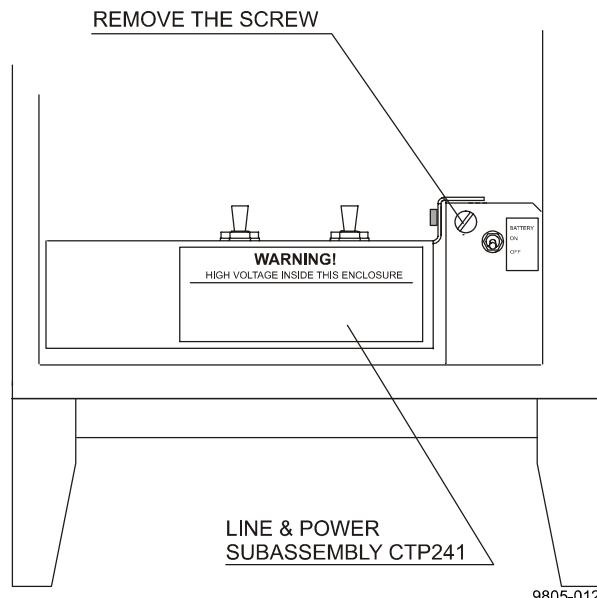

Figure 39 Battery Replacement
1. Open the screw from the battery switch subassembly front panel shown in Figure 39 on page 148 and remove the panel.